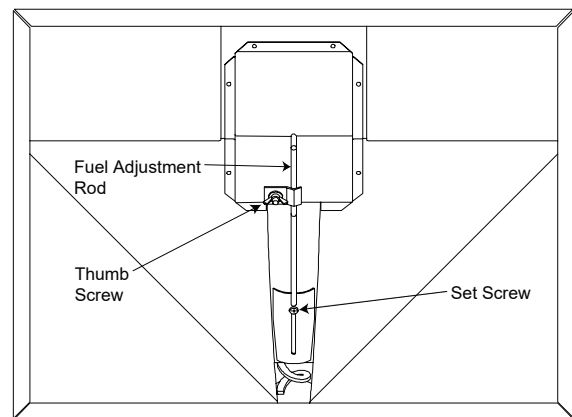

Figure 11.1
The feed adjustment control rod is factory set, and should be adequate for most fuels. The set screw is located at the bottom of the hopper and *set loose at the factory* so the fuel adjustment control rod will slide up and down by only loosening the thumb screw at the top (**See Figure 11.1**). Do not re-tighten bottom set screw.
1. Loosen the thumb screw (**Figure 11.1**).